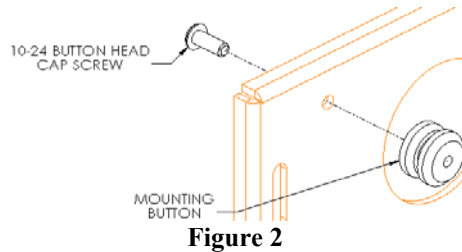
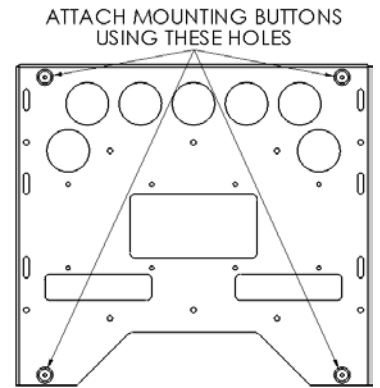

Figure 2
Figure 3
1. Using a 10-24 button head cap screw inserted from back side of bracket, secure mounting button, with chamfered hole of mounting button (larger surface) facing bracket, to bracket (four places) (see Figure 2 and Figure 3).